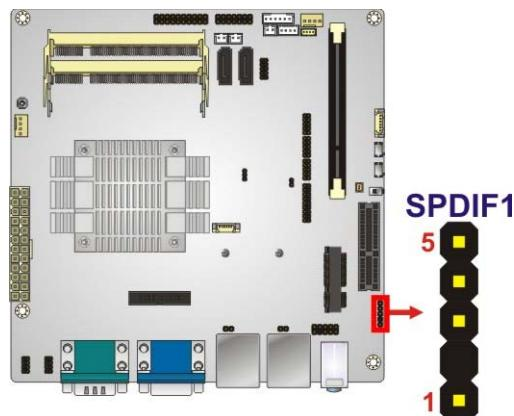

Figure 3-25: SPDIF Connector Location
**CN Location:** See **Figure 3-25**